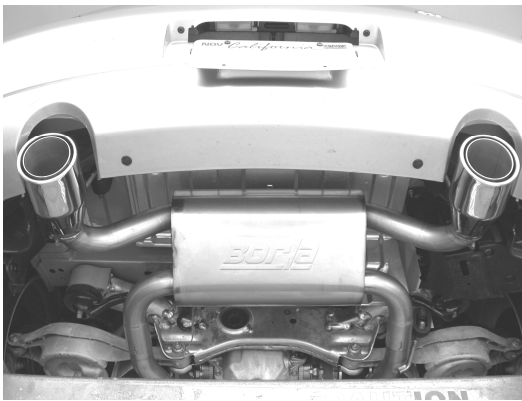

Figure 10
5. Place a clamp over each expanded end of the rear muffler assembly and set it into position as shown in figure 10 installing the hangers into the rubber brackets.